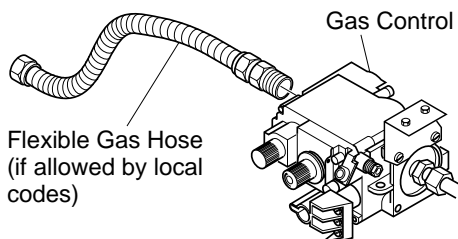

Figure 11 - Attaching Flexible Gas Hose to Heater Gas Regulator
1. Apply pipe joint sealant lightly to male threads of gas fitting. Connect approved flexible gas hose to inlet side of gas control (see Figure 11, page 11).